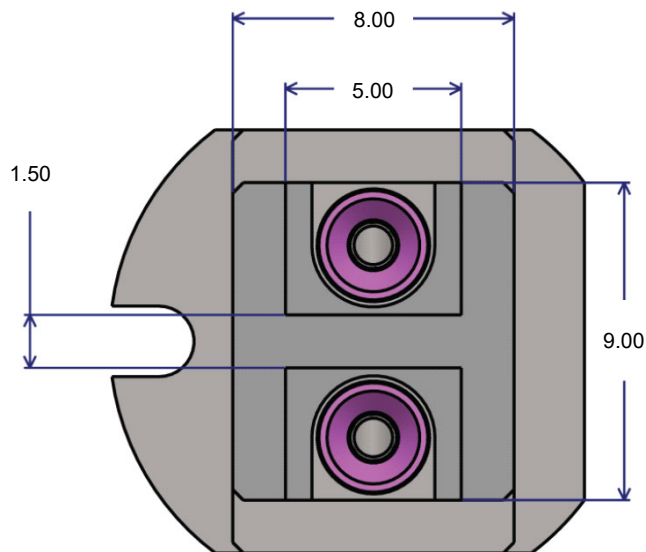

Figure 9. Suggested Power Tower Pickup Tool – Bottom View
- Use suggested Power Tower pick and place pickup tool. See Figure 5 through Figure 9.